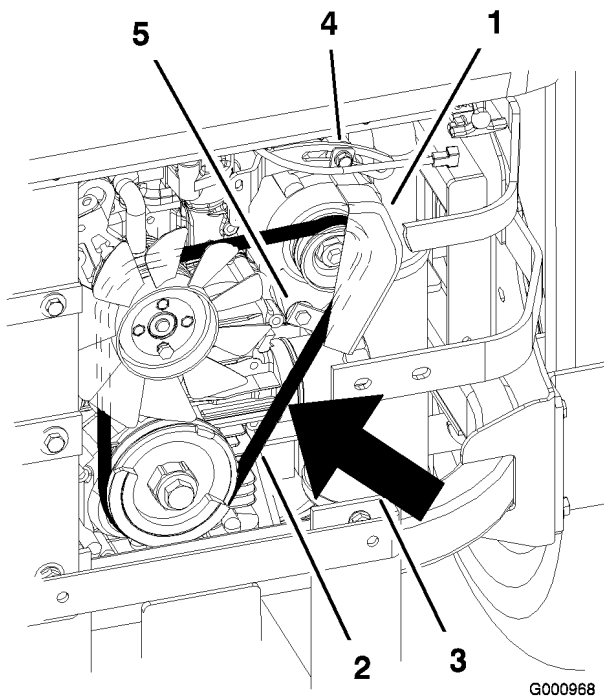

Figure 62
7. Loosen the bottom bolt and remove the upper bolt holding the alternator and cover (Figure 62).
9. Install a new belt around the pulleys and the alternator (Figure 62).
14. Tighten the bottom bolt and install the upper bolt holding the alternator and cover (Figure 62).
2. Adjust the alternator to the outside until there is 1/4 to 11/32 inch (7 to 9 mm) deflection in the belt between the engine and the alternator pulleys with 22.1 lbs of force (10 kgf) (Figure 62).
5. If the deflection is correct, tighten the bottom and upper bolt (Figure 62).